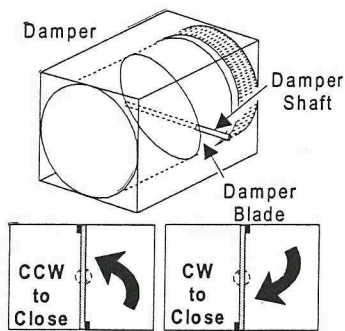

Figure 6: Damper Rotation
- Press and hold the gear release lever shown in Figure 4, and rotate the actuator coupler and damper shaft to the fully closed position as shown in Figure 6.